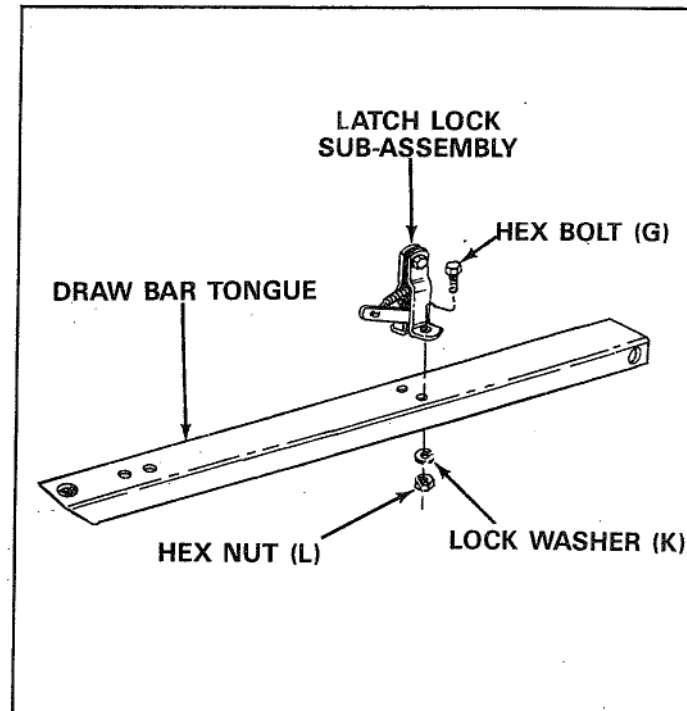

FIGURE 10
15. Tighten all bolts assembled in step 4 through 14, lower cart assembly to rest on top flanges, with axle support up. See figures 10 and 12.
16. Assemble latch lock subassembly to drawbar tongue using 1/4" x 5/8" long hex bolt (G), lock washers (K) and hex nuts (L). See figure 10.